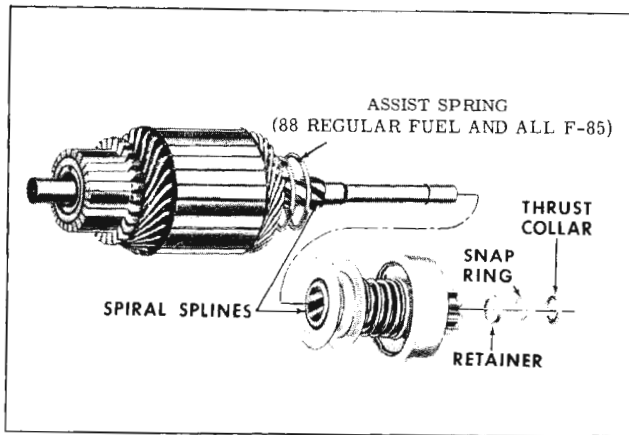

Fig. 14-30 Overrunning Clutch
- a. Remove thrust collar from armature shaft. (Fig. 14-30)